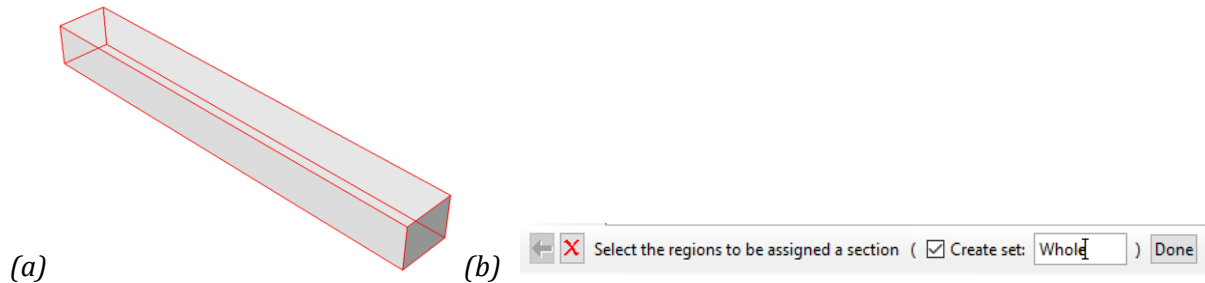

Figure 1-13 – (a) The selected geometry and (b) the prompt area.
2. Click anywhere on the beam to select the entire part as the region to which the section will be assigned, as shown in Figure 1-13(a).
3. In the prompts, check **Create set**. See Figure 1-13(b). Call this set **Whole** and click **Done** in the prompt area to accept the selected geometry. This will make a new set called **Whole** and contains the whole part. This set can be found in the **Model Tree** together with the set made in Section 1.1.